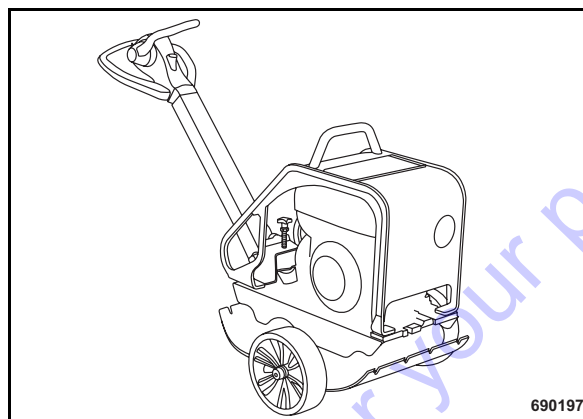

Fig. 34
- Unlock the steering rod and fold it down (Fig. 34).